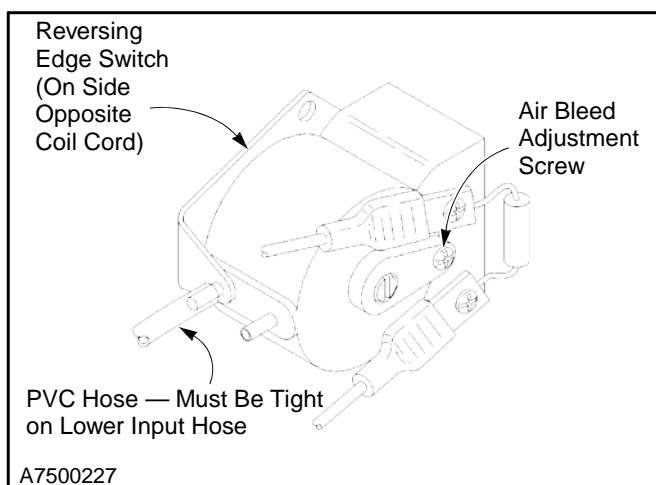

Figure 29
2. Make sure the clear PVC hose is in tight contact with the air input post so that air leakage cannot occur and vibration will not cause the hose to fall off. Make sure the hose is not kinked. (See Figure 29)
3. The air bleed has been set at the factory and should not require adjustment. To check the air bleed, turn the air bleed adjustment screws located on the front and back of the switch fully clockwise but do not overtighten. Then turn the screws back counterclockwise one full turn. (See Figure 29)